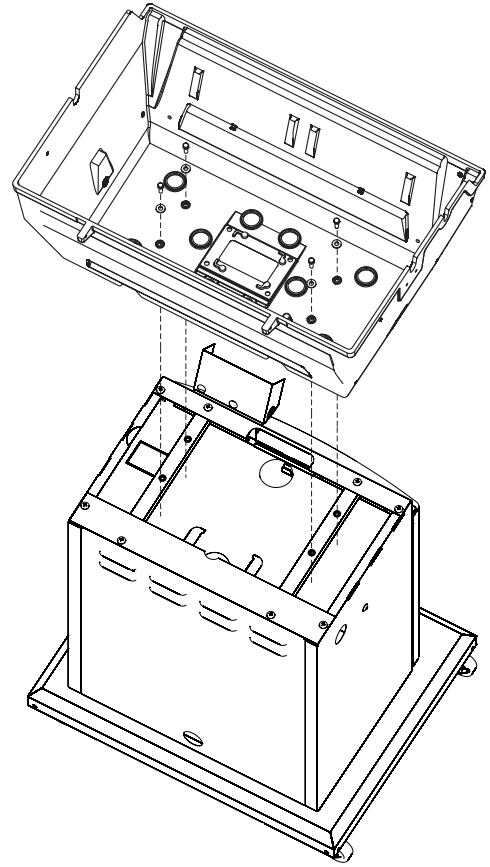

Figure 11
17. Install grill head to cart using four 1/4-20 x 1 1/4 Bolts and Flat Washers. See Figure 11.